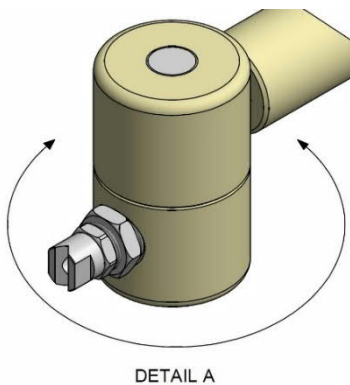

FIGURE 2
STEP 4: The rotation speed can be set by adjusting the spray buckets. This is best achieved by connecting water to the Washer and testing your adjustments before installing on the guide rail. By loosening the bolt which passes through each bucket, the nozzle housing can rotate through 360 degrees (see Figure 2). The nozzles need to be pointing in opposite directions to cause the spray arms to rotate. Speed of rotation is affected by the angle at which the nozzles are set (Figure 3). Best results are obtained with slow rotation, but care must be taken to allow for drops in water pressure at times of peak water usage in the locality. A temporary drop in water pressure can cause the Washer to stop.